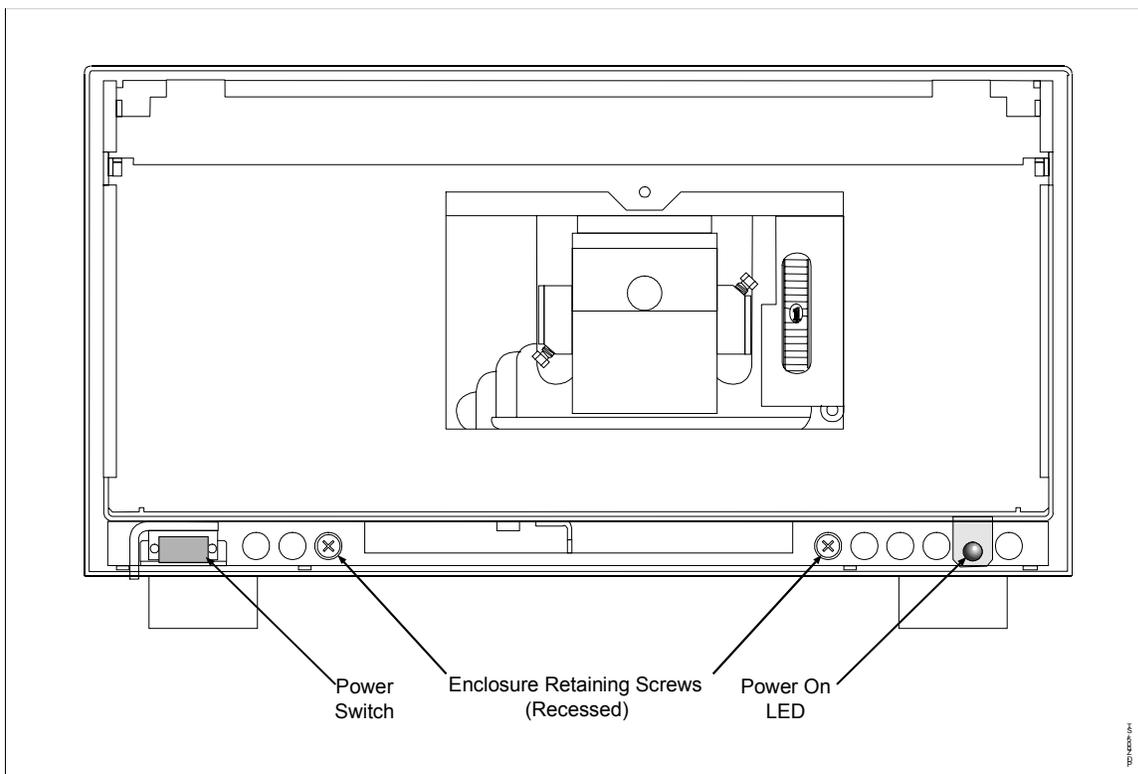

Figure 8.2 Accessing the interior of the UV6000LP
3. Loosen the two captive 3/16" Phillips head screws that secure the chassis to the detector housing. These screws are in a recessed location in the base of the detector (Figure 8.2). The screws are spring loaded and will be retained when loosened.